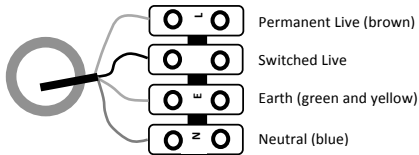
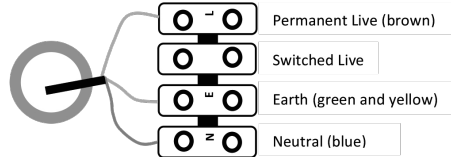

Fig 2
Fig 3
- Connect the luminaire to the mains supply (via the terminal connector) ensuring the correct polarity is observed (see Fig 2 and Fig 3)